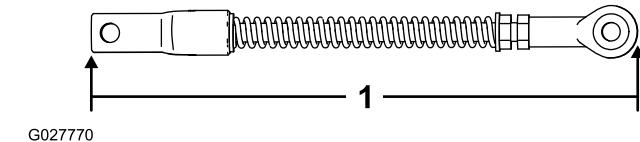

Figure 48
4. Loosen the jam nut and adjust the bell-crank link assembly until it measures 24 cm (9.5 inches) from end to end (Figure 48).